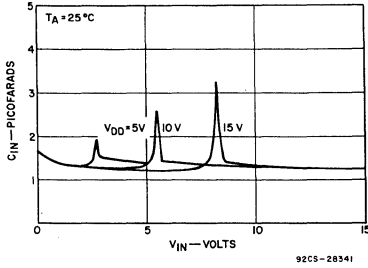

Fig. 10 – Input capacitance of a buffered 2-input NOR gate (CD4001B).
**Input Capacitance**—Figs. 10 and 11 show the dynamic input capacitance of the RCA buffered and unbuffered 2-input NOR gates, respectively. The large MOS transistor geometry of the unbuffered NOR gate is responsible for the higher peak input capacitance (Miller effect) in the linear switching range. The longer dwell in this linear region also tends to broaden the Miller capacitance,